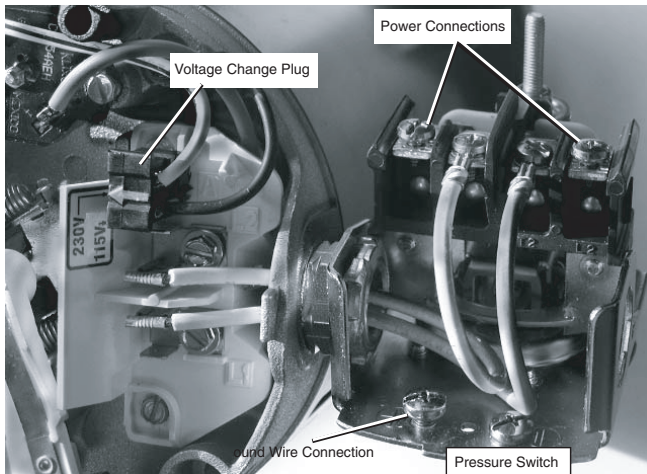

Figure 7: Voltage set to 230 volts, Plug Type
4. Attach the incoming power leads to the two outer screws on the pressure switch as shown in Figure 7.
5. Attach the ground wire to one of the grounding connections, shown in Figure 7.
1. Connect the ground wire first as shown in Figure 7. The ground wire must be a solid copper wire at least as large as the power supply wires.
4. Connect the power supply wires to the pressure switch as shown in Figure 7.